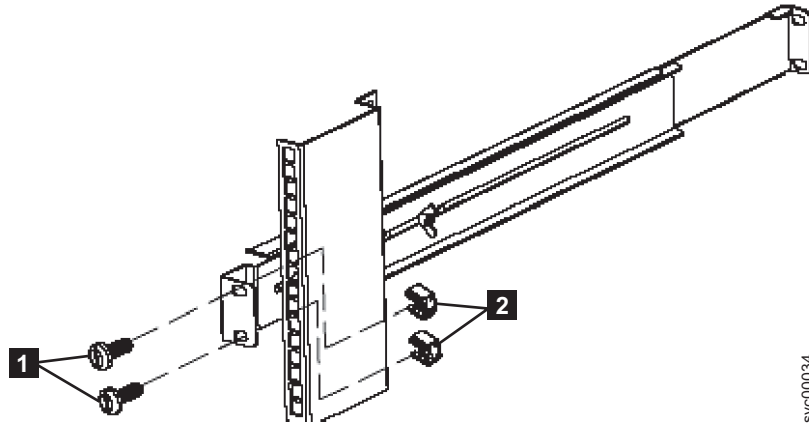

Figure 133. Securing the rear rail on the 2145 UPS-1U
6. Using two M6 × 10 screws (**1** in Figure 133 on page 298) and two clip nuts **2**, attach the rail to the rear of the rack.